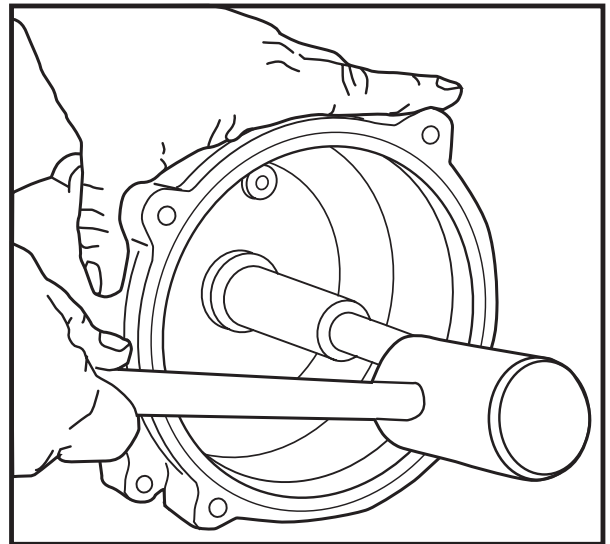

Fig. 39
9. After snap ring is removed, bump on end of shaft with plastic hammer to force shaft through upper seal and to push lower ball bearing from housing. See Figure 39.